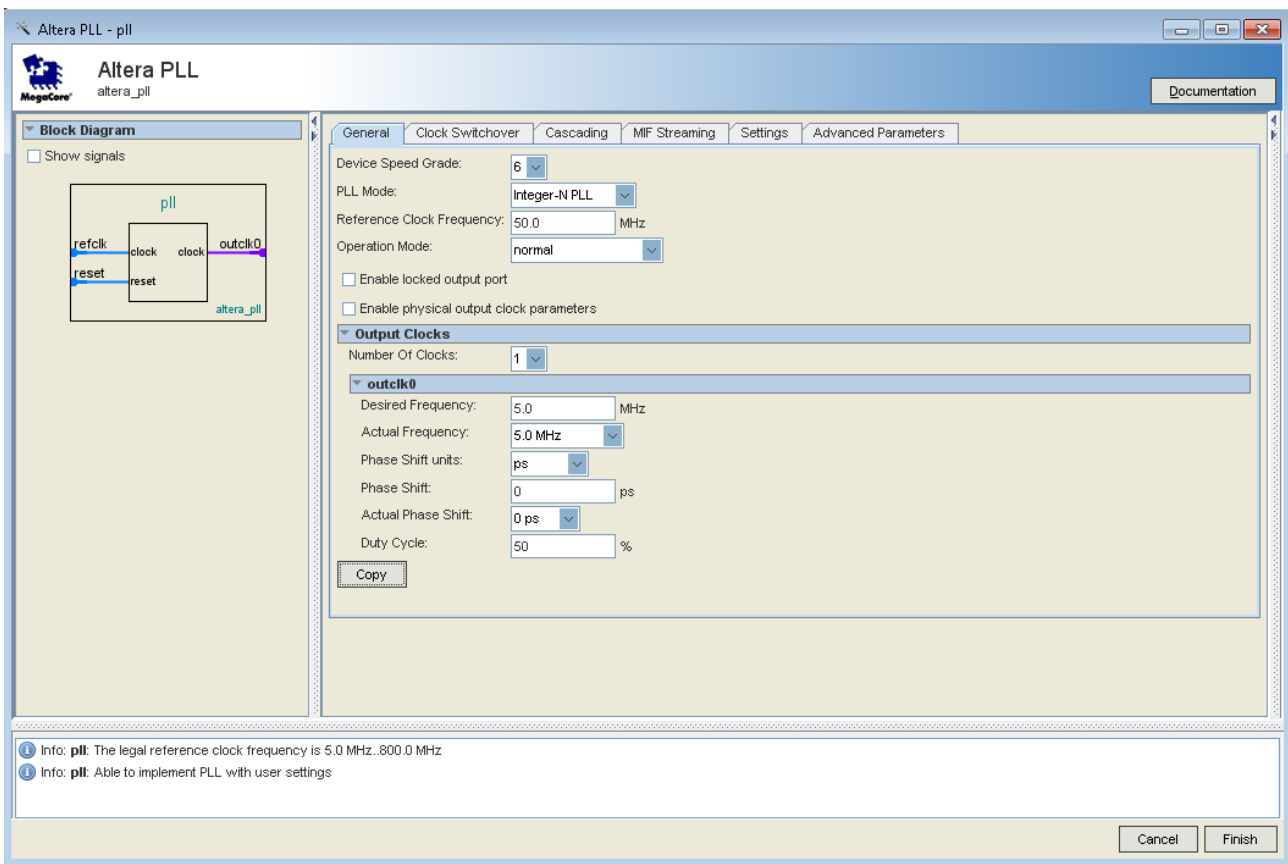

Figure 3-12 Selections of Altera PLL windows
- Then, make the following selection (see Figure 3-12).